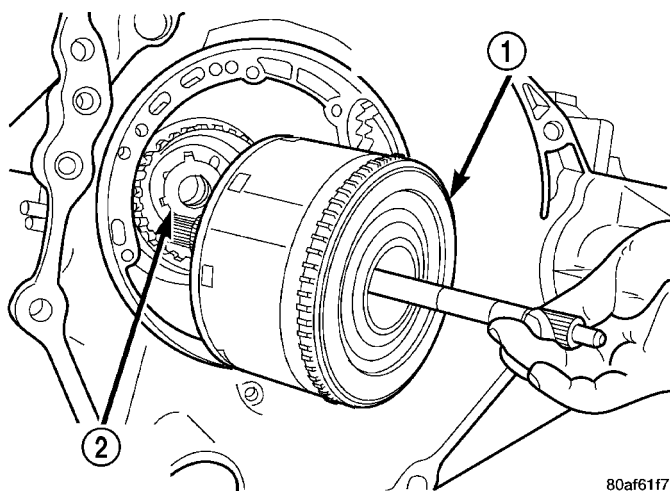

Fig. 143 Install Input Clutch Assembly
(53) Install input clutch assembly (Fig. 143).